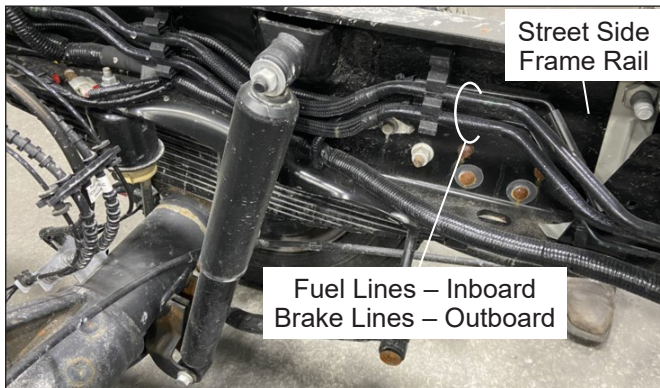

Figure 1 — Ford Fuel and Brake Lines
2. Using a flashlight, locate the fuel lines and brake lines running along the inside of the street side chassis frame rail above the rear axle (refer to Figure 1 or 2).